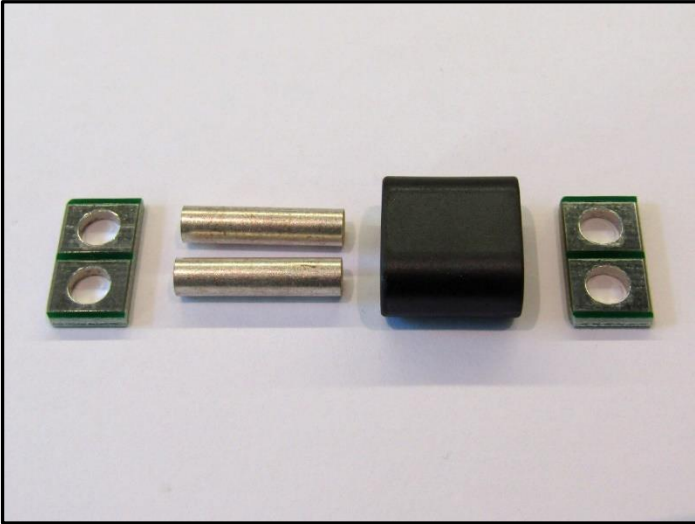

Figure 5a: Transformer parts
10. Make the input transformer as shown in figures 5a – 5d. The easiest way is to assemble the transformer vertically on the workbench and solder in the tubes from each end. You can hold the assembly steady with one finger while soldering each tube in turn. Take care to ensure the assembly is straight and can be mounted flat to the board once finished.